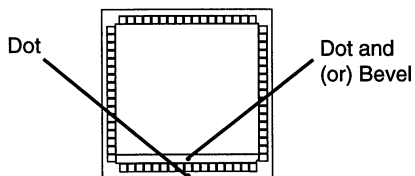

Figure 7 HT2000 Firmware 081004 (shown in socket)
- a. Orient firmware by aligning dot and bevel on IC (indicating pin 1) to dot on socket. (Some firmware has only a bevel indicating the side where pin 1 is located.) See Fig. 7. Be careful not to bend any pins during installation.